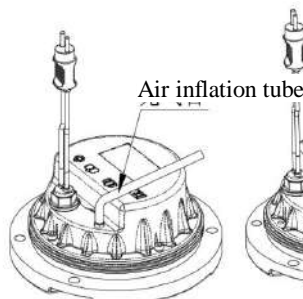

Figure 4-25
- Prepare 138Kpa air source (the air pressure shall not be greater than 150Kpa) and applicable air gun (air tube), inflate the air by aiming at the valve (Figure 4-25) until the air pressure in the lighting fixture meets the requirements. Put this lighting fixture into the water with the depth of 76mm for at least 1min and check whether there are bubbles under the state of static water surface. If not, it means that the sealing property of the lighting fixture is good, otherwise it shall be deemed that the lighting fixture has leakage.